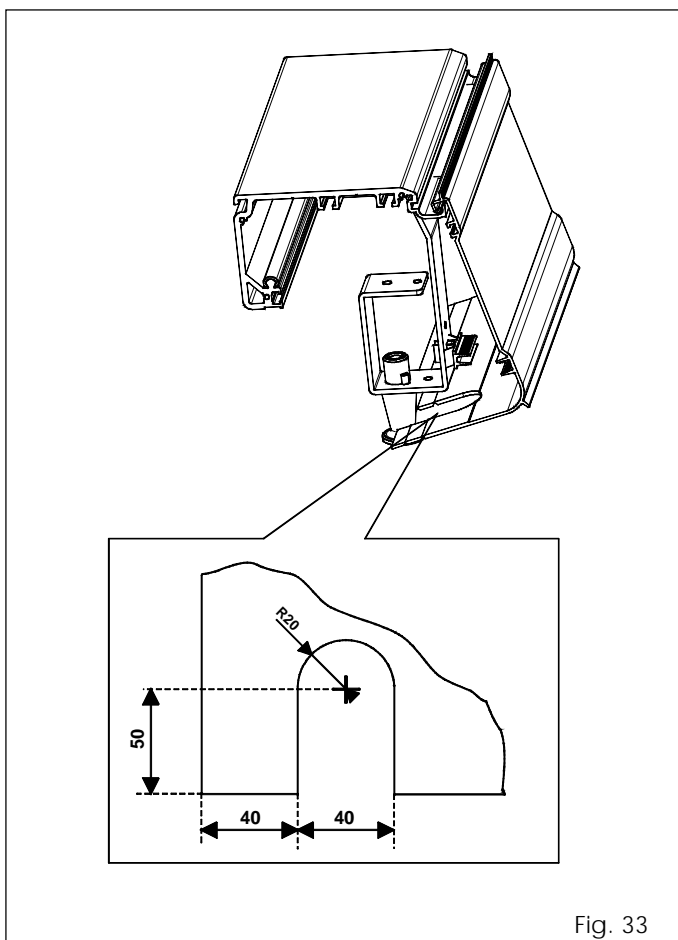

Fig. 33
N.B.: To ensure correct closure of the housing, if using the internal release, shape the housing to the dimensions in fig. 33.